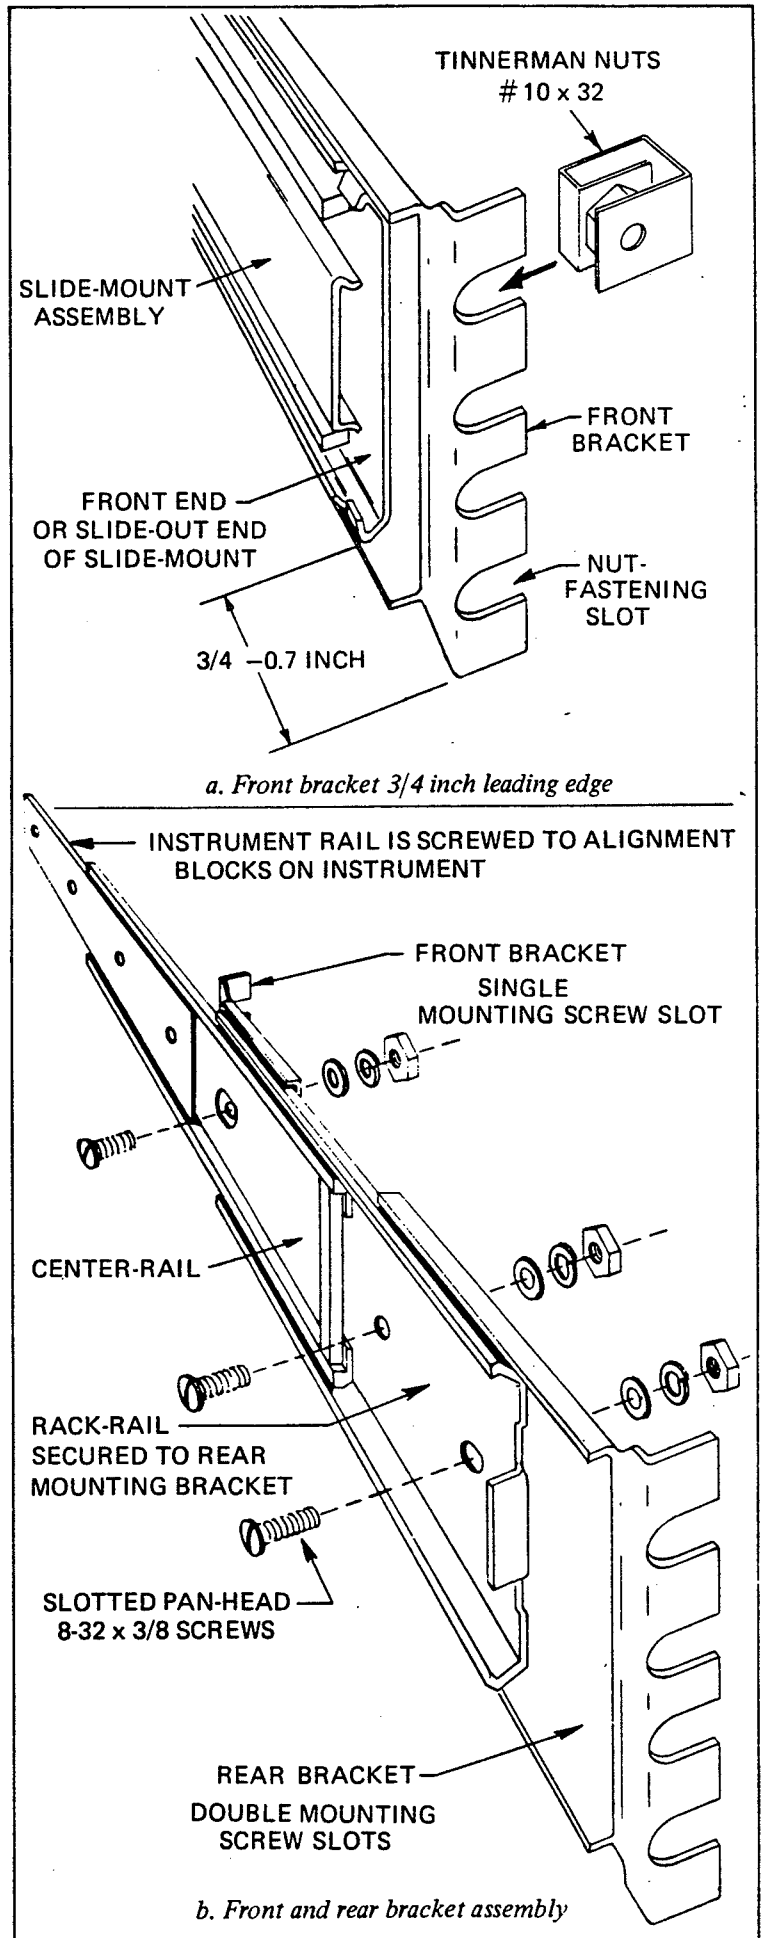

Figure 2.3 - Slide-mount and bracket assembly
2.4.3.8 The following paragraph describes the preparation of the triple-rail slide-mount assembly for installation inside the equipment rack. The hole alignment on the slide-mount is an important consideration during installation, therefore physically extend and retract the slide-mount. An extended view of the slide-mount with the rear mounting bracket attached is shown in Fig. 2.3. As the slide-mount is extended and retracted, it should be noted that all holes on the instrument-rail and the rack-rail are accessible either directly or through the enlarged holes in the center-rail.
- c. Adjust the rails to align the rack-rail and the front-bracket holes, then place a slotted pan-head #8-32 x 3/8 screw through the holes. Attach the matching washer, lock-washer and nut to the screw and secure firmly, while maintaining the 3/4 inch dimension to the front of the bracket. Refer to Fig. 2.3 for illustrations that detail the slide-mount and bracket assembly.